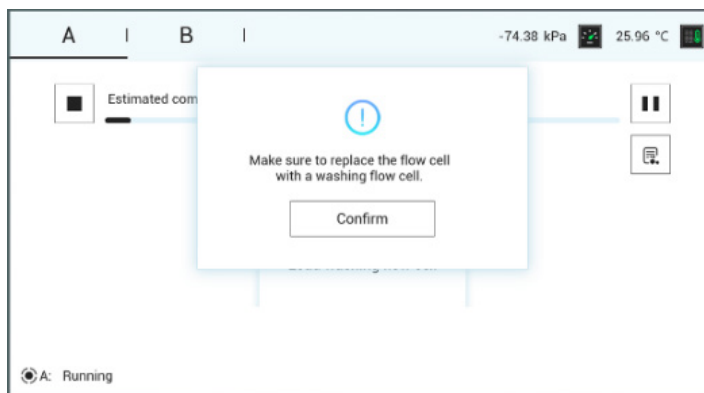

Figure 12 MGIDL-T7RS flow cell loading complete status window
18. When the loading is completed, install the washing flow cell onto the flow cell stage and press the flow cell attachment button. Tap **Confirm** button as shown in *Figure 12 on Page 51*.